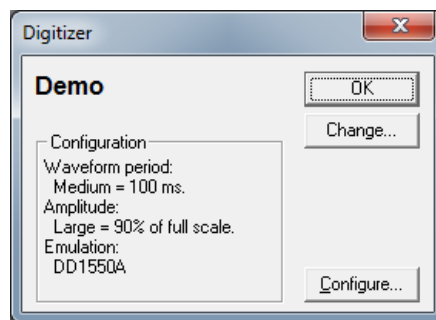

Figure 2-1: Example Digitizer Dialog.
2. Click **Configure > Digitizer** to open the **Digitizer** dialog, then click **Change** (Figure 2-1).